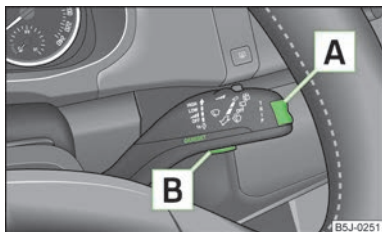

Fig. 7
- › Activate the **Main menu** by pressing the rocker switch  » Fig. 7 for longer.
- If warning messages are shown in the information display, you need to confirm these messages with the button **[B]** » Fig. 7 on page 15 in order to call up the main menu.